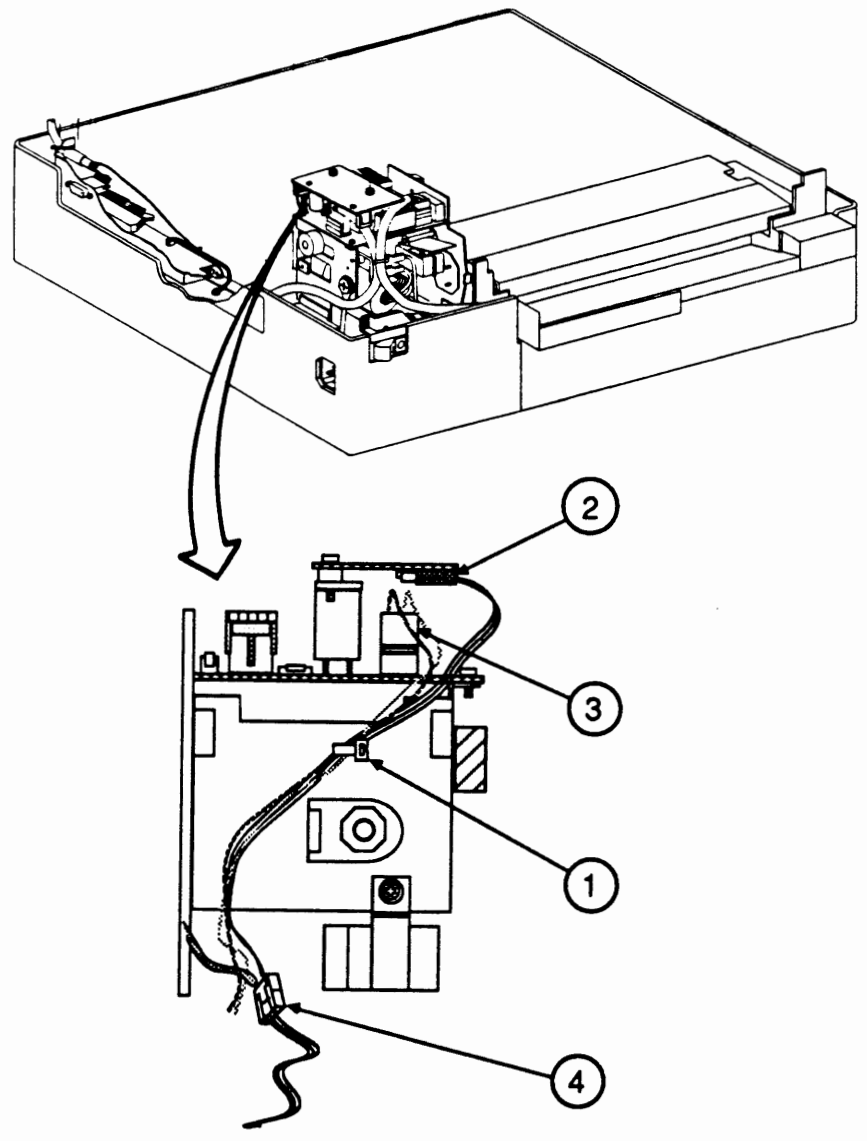

FIGURE 2-52
8. Beneath the Power Interlock Assembly cover is a two-board AC Driver PCB (Appendix, Photo 8, #1). Remove the cable tie (Figure 2-52, #1) that holds the cables to J102 and J104 on the two-board AC Driver PCB.
9. Disconnect the cable to J104 (Figure 2-52, #2) on the upper PC board.
10. Disconnect the cable to J102 (Figure 2-52, #3) on the lower PC board.
11. Disconnect the black-and-white fuser assembly connector (Figure 2-52, #4) from beneath the Power Interlock Assembly.